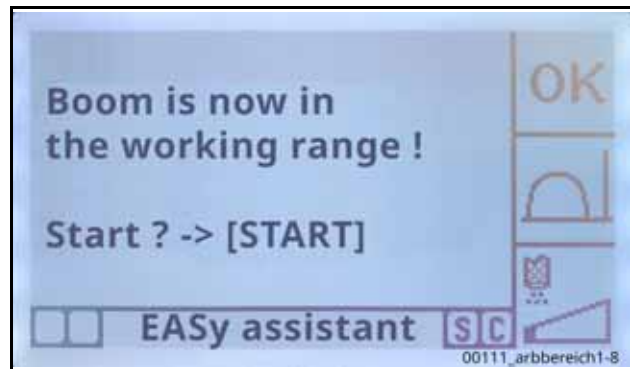

Fig. 438
- Confirm that the "EASy front" work area has been reached on the control cabinet of the VECTOR control or on the remote control (**Fig. 438**).